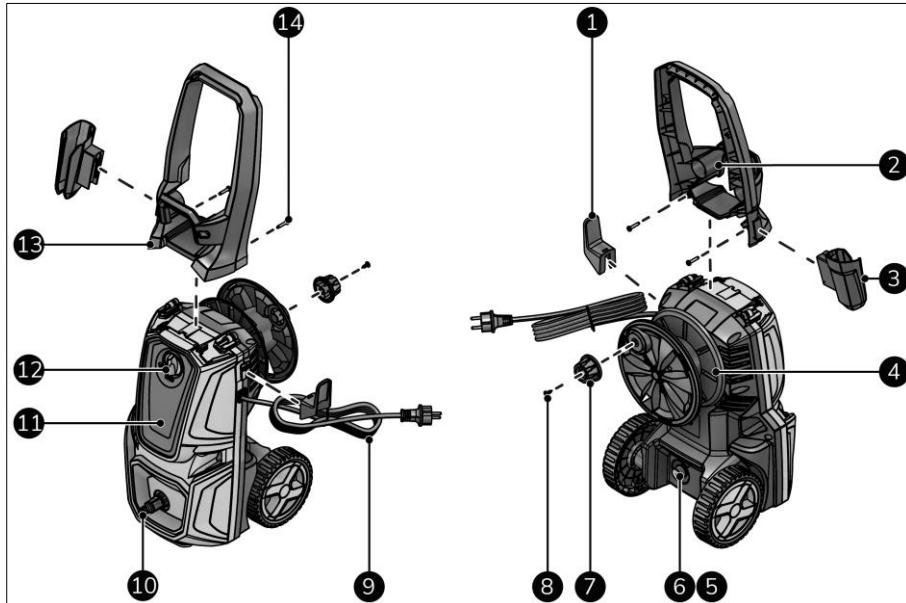

Figure 4
This EUROM device is an easy-to-use high-pressure cleaner (Figure 4). The device is designed for household use, such as cleaning vehicles, buildings, terraces, facades and garden equipment.
1. Make sure the ON(I)/OFF(0) switch is in the OFF(0) position (Figure 4, pos. 12).